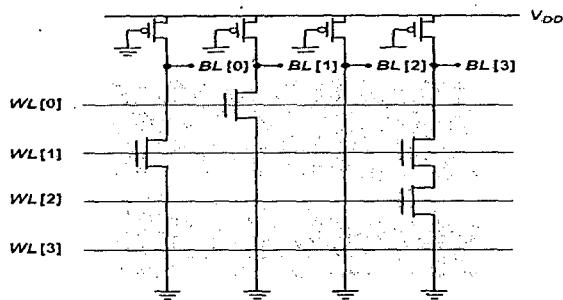

Figure 9
- 15.(b)(i) Give the data content stored in the MOS NAND ROM cell shown in Fig. 9. (4)
- (ii) Draw a six transistor SRAM cell and derive the transistor device dimension ratios for read and write operations (12)